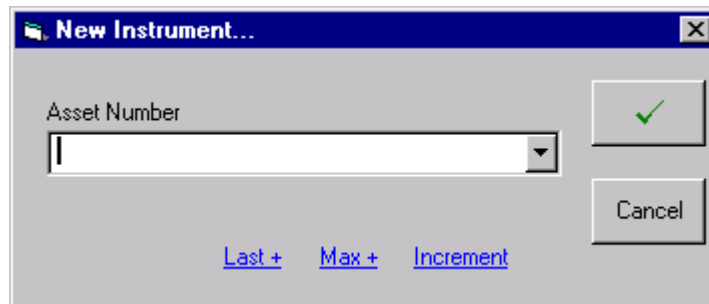

Figure 23. New Instrument Asset Number
4. From the main menu select **Add, Inventory Record**. The New Instrument dialog box opens (Figure 23).